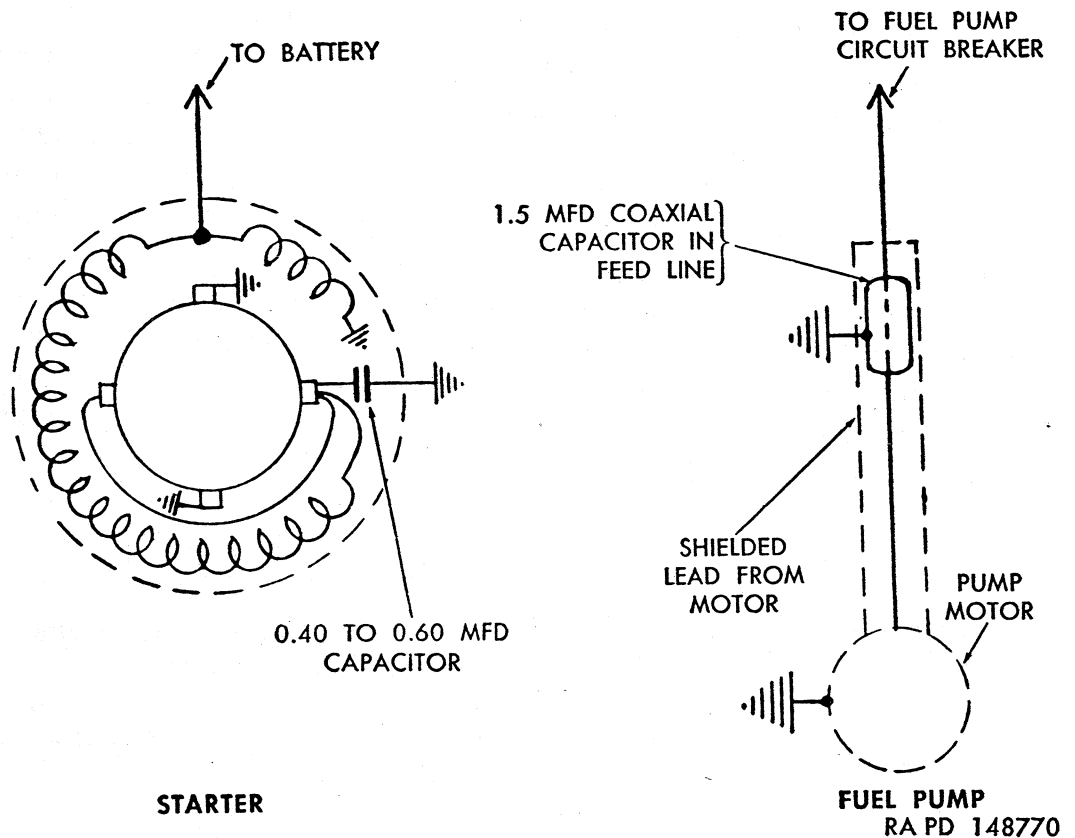

Figure 182. Schematic circuit diagram of starter and fuel pump radio suppression units.
a. *Description and Data*. Starter series field windings and insulated brushes are grounded to commutator end head through a 0.40 to 0.60 mfd capacitor (fig. 182). Capacitor (fig. 146) is mounted on commutator end head and is grounded through its mounting.
(fig. 182)